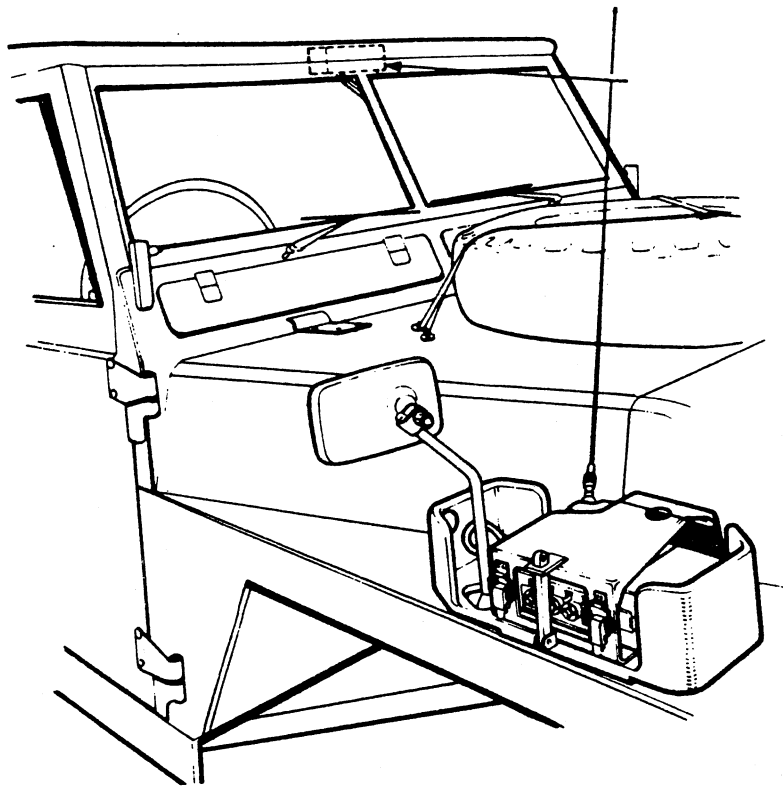

Fig 29.—Vehicle Mounted UK/PRC 350
- a. Fit set to vehicle wing with installation kit provided (*see Fig 29*).